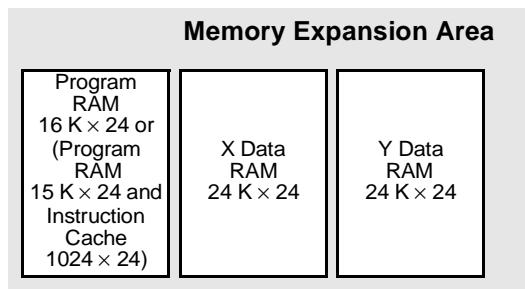
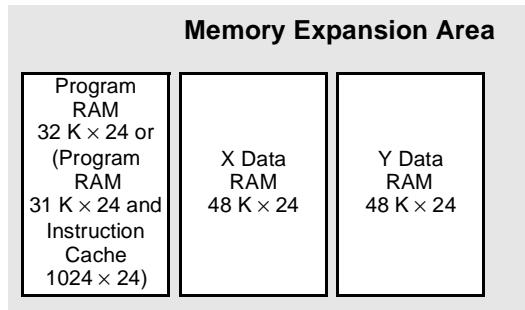

Figure 1. DSP56307 Memory Block Diagram
Figure 2. DSP56311 Memory Block Diagram
The DSP56311 has a total of $128\text{ K} \times 24$ -bit on-chip RAM compared to the $64\text{ K} \times 24$ -bit on-chip RAM of the DSP56307. In both devices, RAM is partitioned into program memory space (P), and X and Y data memory space. The program memory space (P) includes internal Program RAM, an internal Instruction Cache (that behaves as Program RAM when the cache is disabled or reassigned to external program RAM when cache is enabled), a boot program ROM, and an optional off-chip memory expansion. The data memory space is divided into X data memory and Y data memory in order to work with the two address arithmetic logic units (ALUs) and to feed two operands simultaneously to the data ALU. Each data memory space includes internal RAM and optional off-chip memory expansion. **Figure 1** shows the default memory block diagram for the DSP56307. **Figure 2** shows the default memory block diagram for the DSP56311.